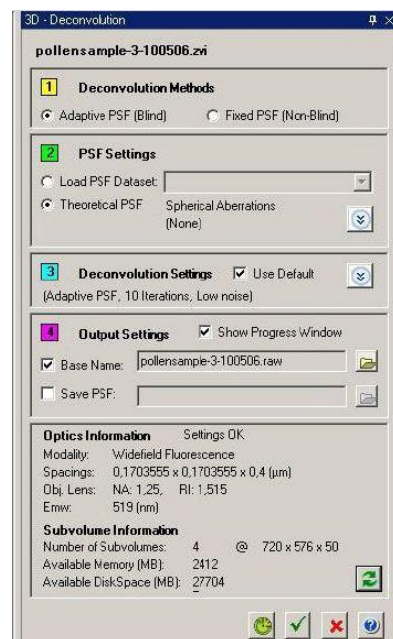

Figure 2b
a. 3D Deconvolution Menu bar appears on the right side; Adaptive PSF (blind) and Theoretical PSF should be selected (Fig. 2b). Blind deconvolution estimates PSF at the same time as it estimates the object, and can respond to PSF changes between different specimens unlike previously measured PSF. (Blind deconvolution is one form of constrained iterative algorithms.)
b. In Deconvolution Settings (Fig. 2b), the number of iterations can be adjusted downwards, if time is a critical factor (default is 10 = duration ~10 min. depending on data set). The number of iterations tells how many times the computational operations are done to each image.
c. Optical and microscope settings are imported from the zvi-file directly. You can see them in Figs. 2b and 3.